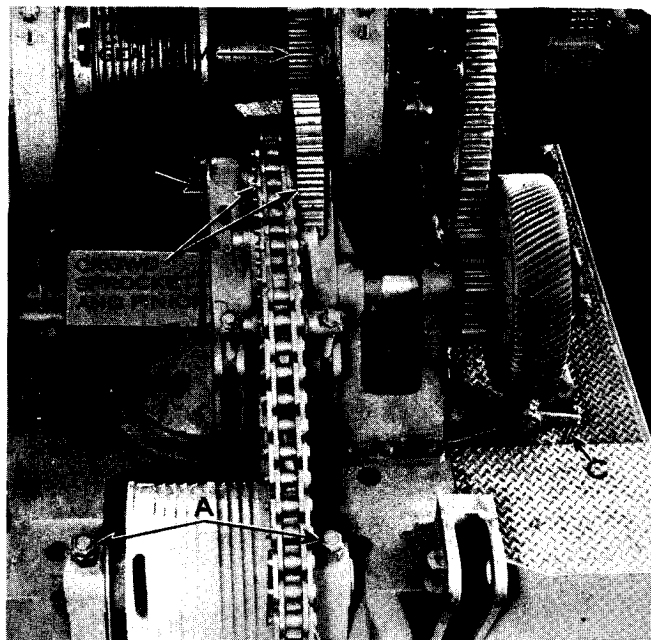

FIG. 1
7. Take out the rod bolts "A" holding the crowd rope drum to the front of the revolving frame. (See Fig. 1.) (The rope drum shaft is carried by two plates bolted to the boom, therefore it is not necessary to disturb the crowd and backhaul ropes.) If the machine is being changed over to dragline operation, or is to have mast-type suspension, take off the shaft bearings to use with the fairlead or mast.
3. Take off the retaining plate "B" at the right end of the crowd sprocket shaft. (See Fig. 1.) Pull out the shaft and remove the sprocket and pinion assembly. (Replace the sprocket shaft and retaining plate.)
For dragline, clamshell or crane operation disconnect the backhaul clutch lever by disconnecting the short reach rod "C" passing through the left hand deck plate. (See Fig. 1.)